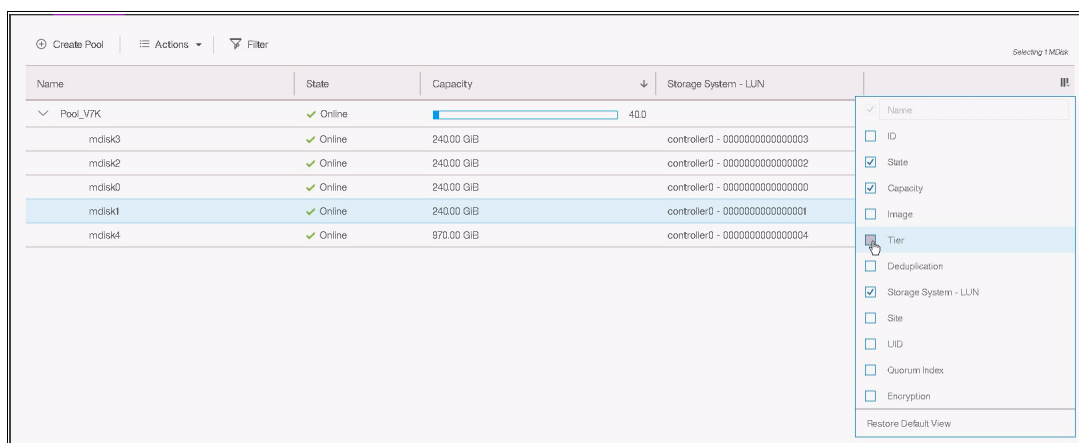

Figure 7-6 Customizing the title row to show the tier column
4. If you do not see the *Tier* column, right-click the blue title row and select the **Tier** check box, as shown in Figure 7-6.